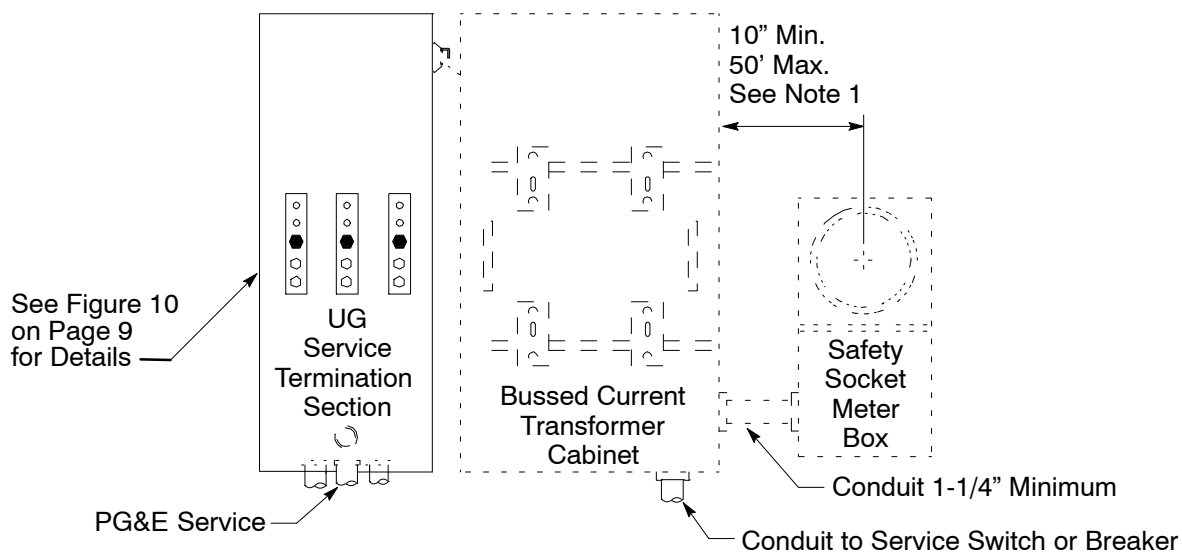

Figure 7
- (3) Wall-mounted underground service pull and termination box, 401 through 600 amp, single-phase (see Figure 7 on Page 7).
1. Revised Figure 7 on Page 7.